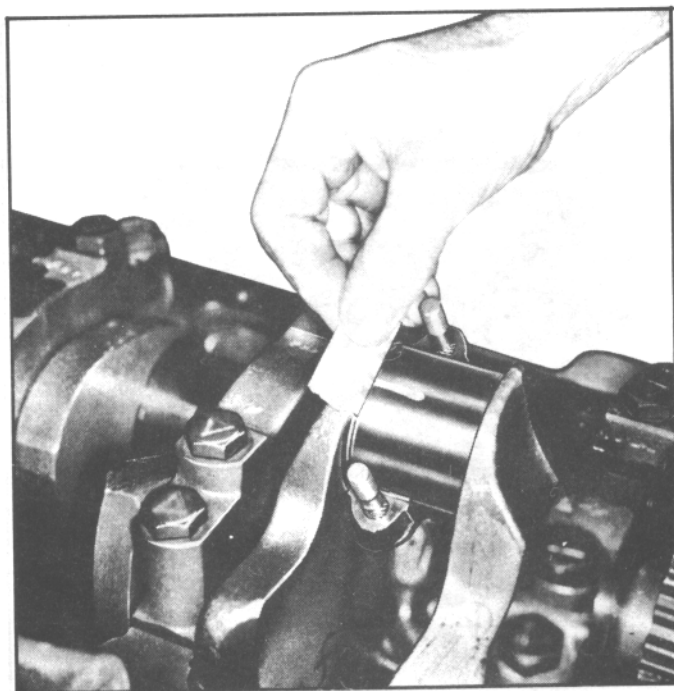

Fig. 88. Measuring Gauging Plastic
- (d) Remove the bearing cap and using the scale on the gauging plastic envelope, measure the gauging plastic width at the widest point (Fig. 88).